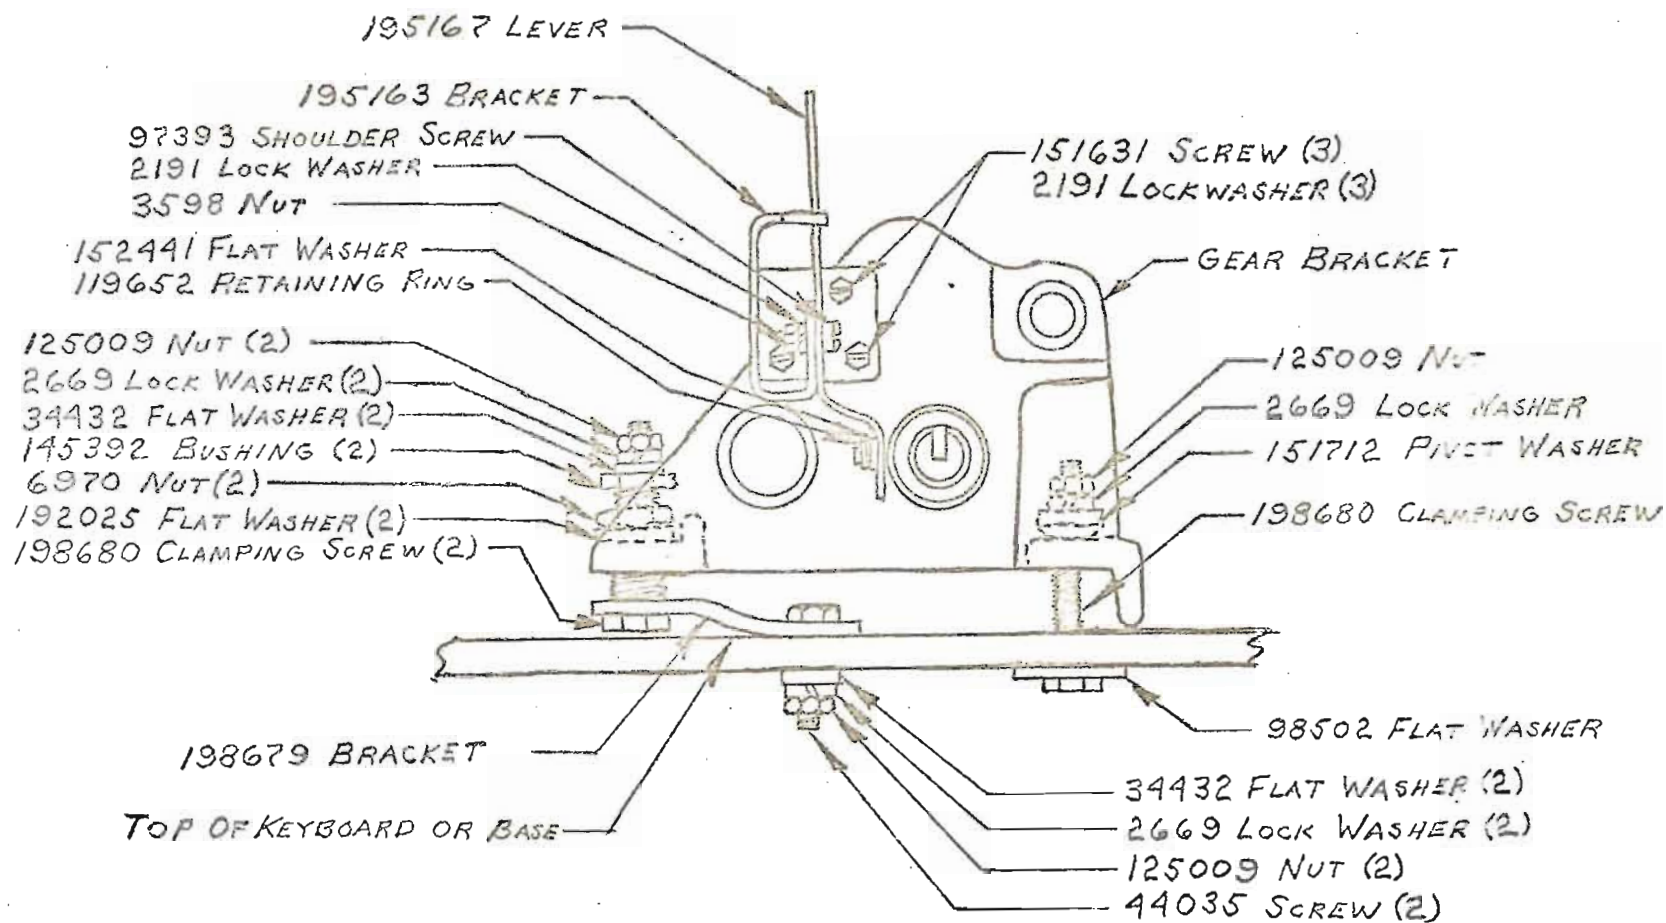
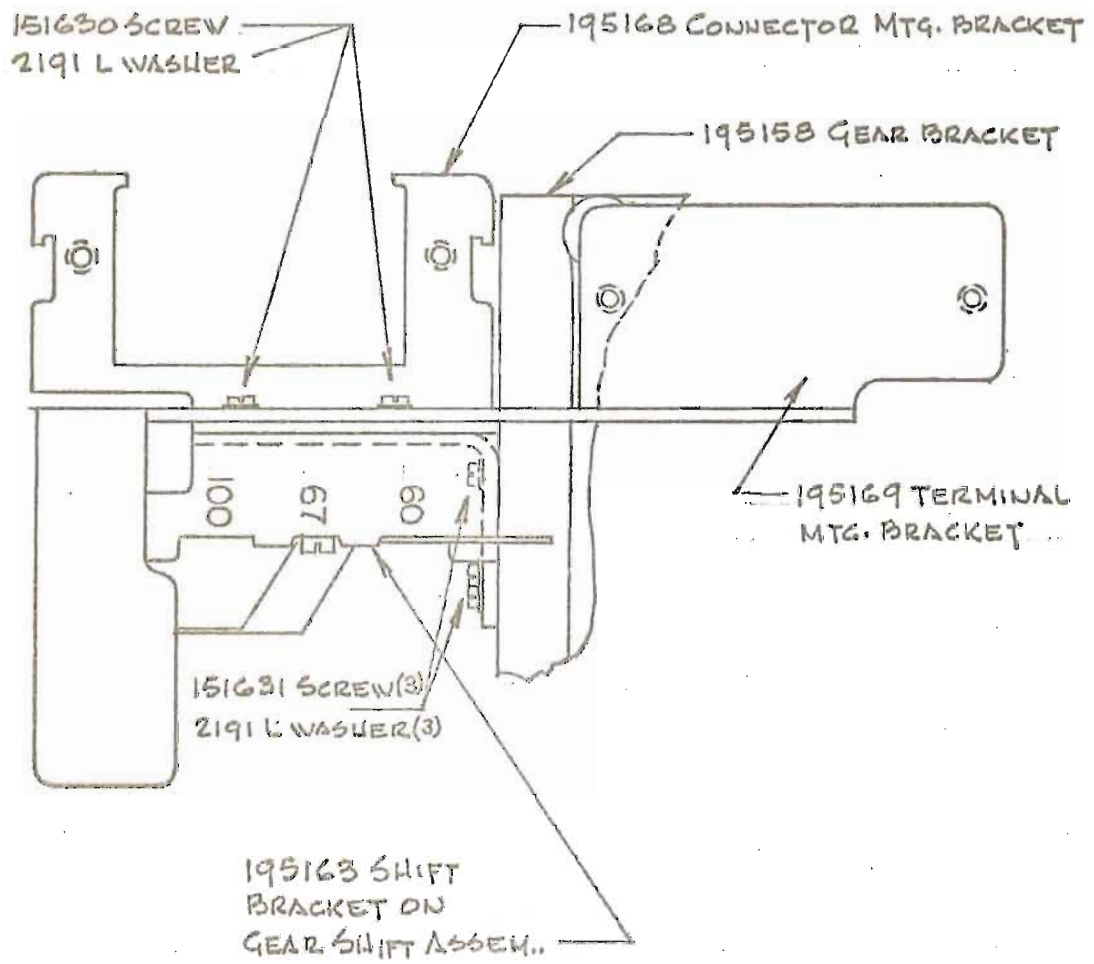
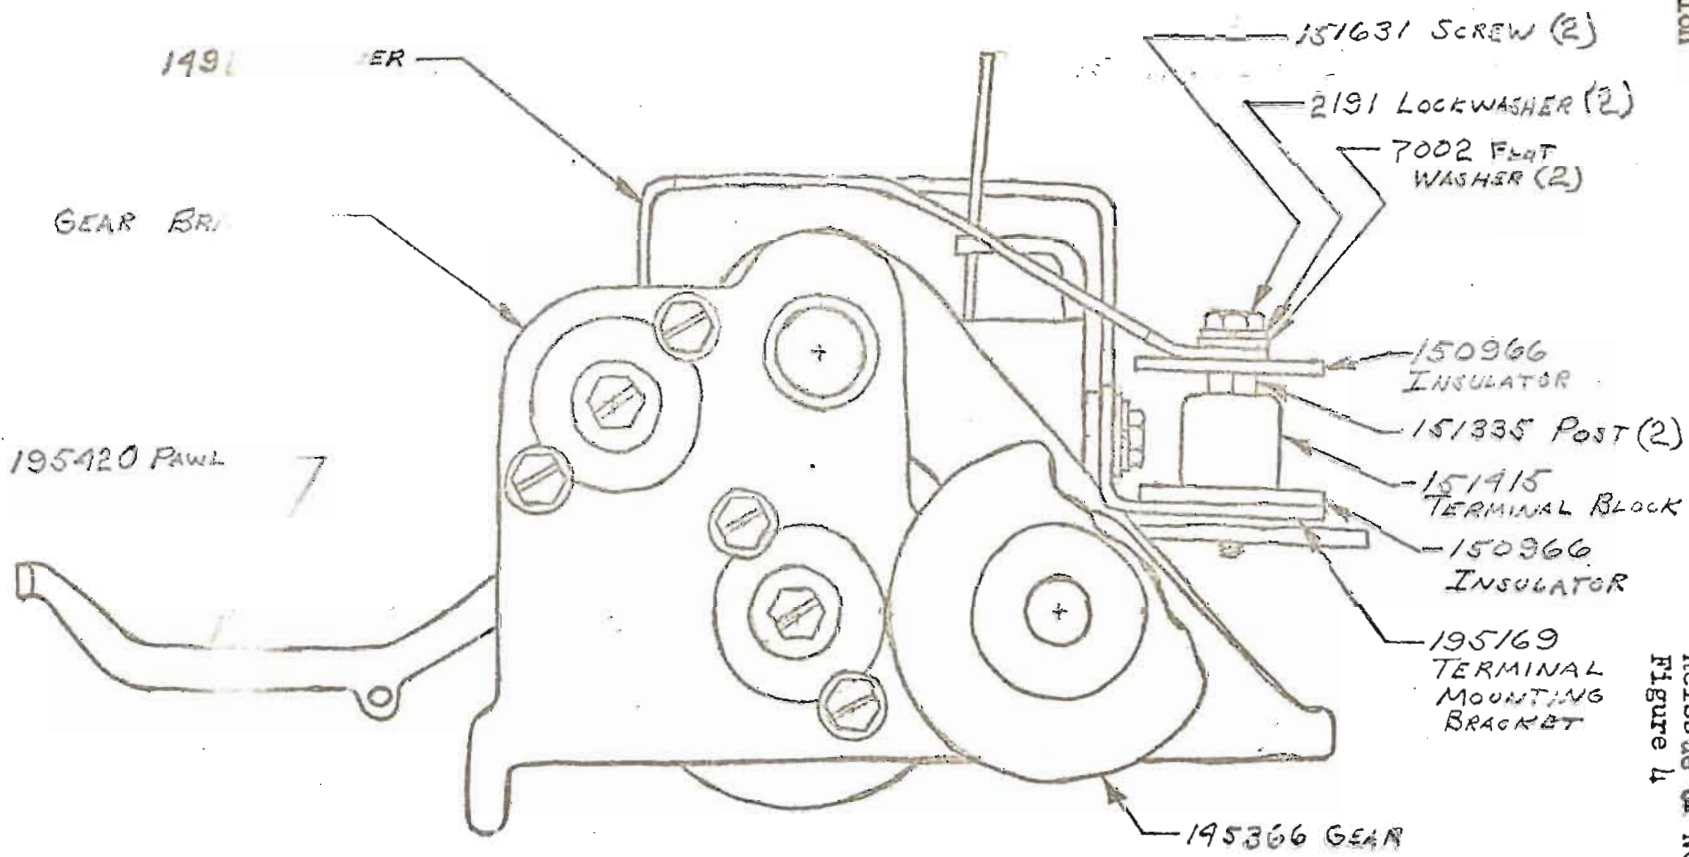

FIGURE 2
FIGURE 3
FIGURE 4
a. Gear shift assembly adjustment to driven gear, motor pinion and time delay mechanism. (Refer to Figure 2)
*(1) Requirement - There shall be .004 to .008 inch backlash between the motor pinion and its driven gear and between the speed shift gear bracket assembly idler and its driven gear on the Printer (LP).
(2) Requirement - The 195420 Pawl should be positioned relative to the associated parts of the time delay mechanism so that it rides freely without binding on the 195418 Gear and Eccentric.
*(3) Requirement - There shall be some clearance between the motor end bell and the 145366 Gear Shift Input Gear.
** (4) To adjust - Loosen the three screws which mount the speed shift gear bracket assembly and loosen the two lock nuts which lock the adjusting bushings at the rear of the assembly. Position the assembly and adjust the height at the rear by means of the adjusting bushing nearest to the motor. The other bushing should be backed out for clearance. After correct adjustment has been obtained, lock the adjusting bushing nut. Turn the other bushing with the fingers until it touches the base and tighten the lock nut. Tighten all mounting screws and recheck requirements.
*b. Shift Lever Bracket Adjustment (Refer to Figure 3)
*(1) Requirement - The 195167 Shift Lever shall be positioned within the detent notches in the 195163 Bracket.
*(2) To adjust - Loosen the three 151631 Screws which mount the 195163 Bracket and reposition the bracket. Tighten the mounting screws.
*c. Terminal Block Mounting Bracket Adjustment (Refer to Figures 3 and 4)
*(1) Requirement - There shall be a .062 minimum clearance between the 195169 Terminal Block Mounting Bracket and each of the three gears below the bracket.
*(2) Requirement - The formed tab on the 149881 Cover shall rest securely on the gear bracket so as to prevent rattling.
*(3) To adjust - Loosen the two 151630 Screws which mount the 195169 Bracket to the 195163 Shift Bracket. Raise or lower the free end of the 195169 Bracket and tighten the mounting screws.
- *(1) Remove Printer (LP) and Motor Unit (LMU) and remove the keyboard or base from cabinet.
- *(2) Remove from the keyboard and discard the following items:
- *(3) Insert two 198680 Clamping Screws through the 198679 Bracket. (See Figure 2.) Fasten the bracket to the top of the keyboard or base. Place the bracket mounting screws through the slots at the rear of the keyboard or base, vacated by the intermediate gear assembly. Position bracket at forward edge of slots (toward printer) and tighten.
- *(4) Place gear bracket assembly over clamping screws. Assemble remaining 198680 Clamping Screw and associated hardware through the remaining slot vacated by the intermediate gear assembly.
- *(7) With the left end of the 145383 Key extending beyond the left end of the 195417 Shaft, position the extension of the left end of the key, in the hole on the inner bearing surface of the sleeve assembly and slide the sleeve assembly onto the 195417 Shaft. Care must be taken that the spring and pin at the right end of the key remain in alignment as the key slides into the bearing in the 195158 Bracket. The 145386 Sleeve Assembly should be assembled on the 195417 Shaft with the 151245 Felt Washer nearest the 195158 Bracket Casting.
- *(8) Assemble the 195167 Lever to the 195163 Bracket. (See Figure 2.) Assemble the 195163 Bracket to the gear shift casting. Fasten the lower end of the 195167 Lever to the 145386 Collar.
- *(9) Mount the connector to the 195168 Bracket using retained hardware and following reverse of removal procedure.
- *(10) Fasten the 195168 Bracket and 195169 Terminal Block Bracket to the bracket mounted to the gear shift casting. Place the 195169 Bracket between the 195168 Bracket and the gear shift bracket. Use two each 151630 Screw and 2191 Lockwasher. See Figure 3.
- *(11) Fasten the motor terminal block to the 195169 Bracket using retained hardware.
- *(12) Fasten the 145365 Motor Pinion to the motor with a 159287 Retainer and two 161301 Posts.
- *(13) If a time delay mechanism is to be used, insert the 195420 Pawl into the gear bracket assembly. The open end of the pawl fits on the eccentric hub of the 195418 Gear as shown in Figure 4.
- ***(14) Adjust and lubricate per Section III of this specification.
- ***(15) Mount 149881 Cover on top of terminal block as shown in Figure 4. Replace the original screws in the 151335 Posts with two 151631 Screws. Add two 7002 Flat Washers.